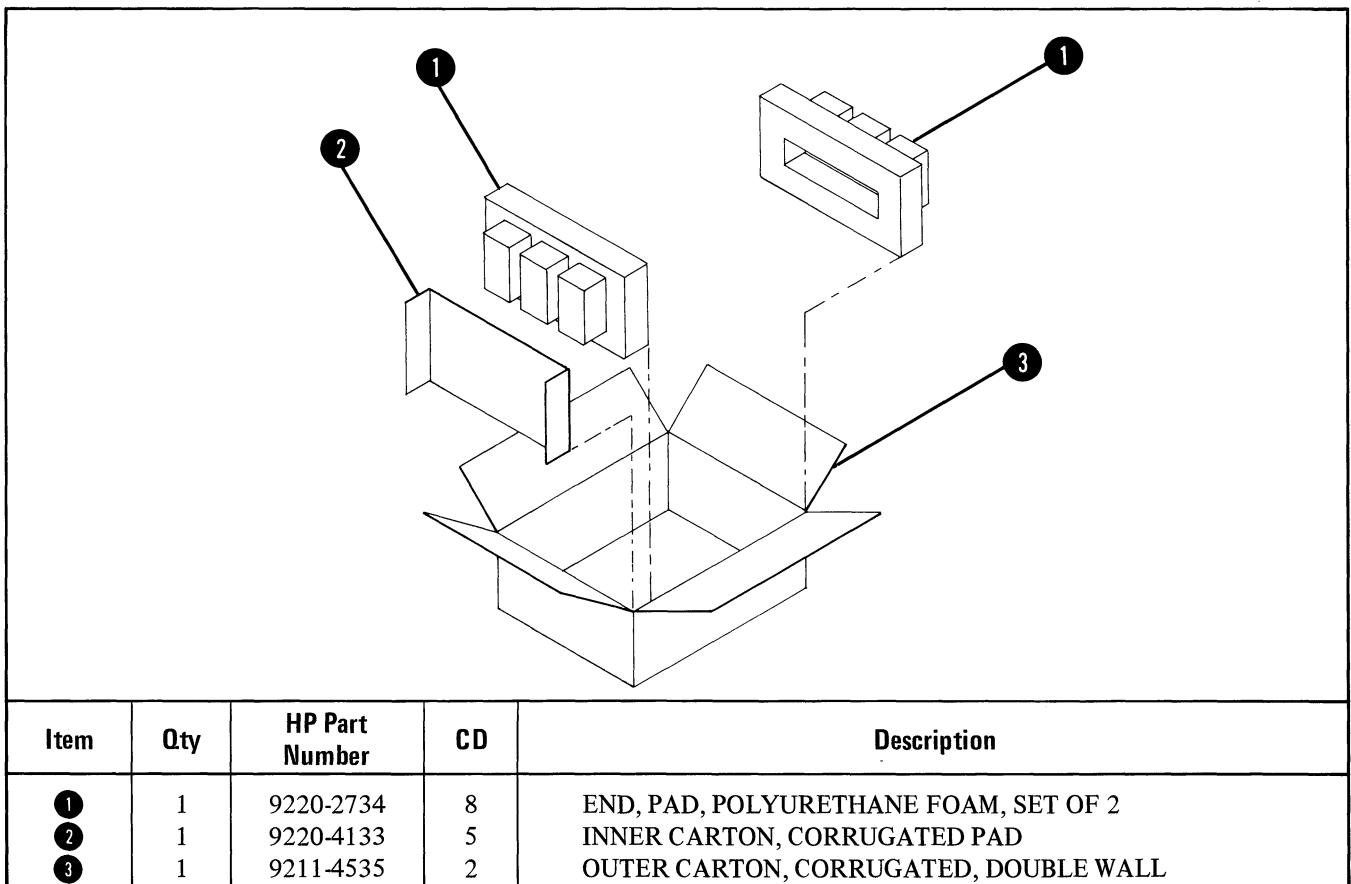

Figure 2-2. HP Model 11975A Packaging
**2-18. Original Packaging.** Containers and materials identical with those used in factory packaging are available through Hewlett-Packard offices. Figure 2-2 illustrates the proper method of packaging the instrument for shipment using factory packaging materials. If the instrument is being returned to Hewlett-Packard for servicing, attach a tag indicating the type of service required, return address, model number, and full serial number. A supply of these tags is provided at the end of this section. Also, mark the container FRAGILE to ensure careful handling. In any correspondence, refer to the instrument by model number and full serial number.